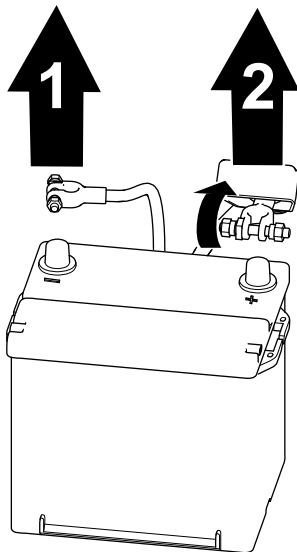

Figure 59
1. Remove the negative battery cable from the battery post (Figure 59).